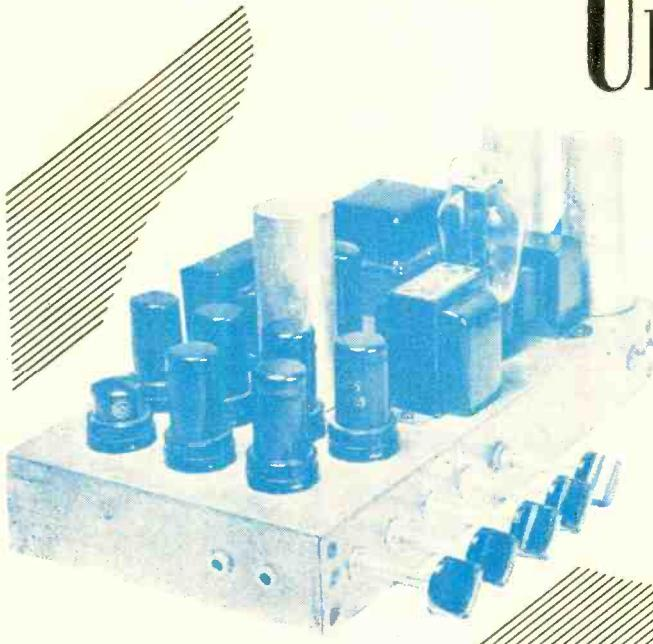

Fig. 1. View of completed unit. Tip jacks mounted on side of chassis are for input terminals.
To perform this change in frequency (*frequency conversion*), an arrangement consisting of an oscillator and a "mixer" is employed. Both units considered together comprise the *frequency converter* (see Fig. 1). In the mixer portion, two voltages of differ-
Fig. 1. Functional block diagram of a typical superheterodyne receiver showing the various changes that the selected modulated incoming signal, (B), undergoes as it progresses successively through the various stages of the receiver.